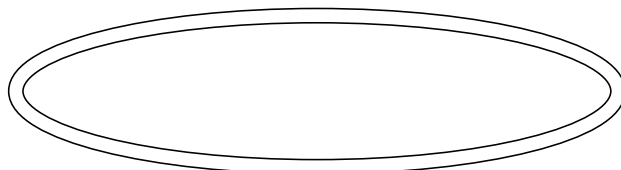
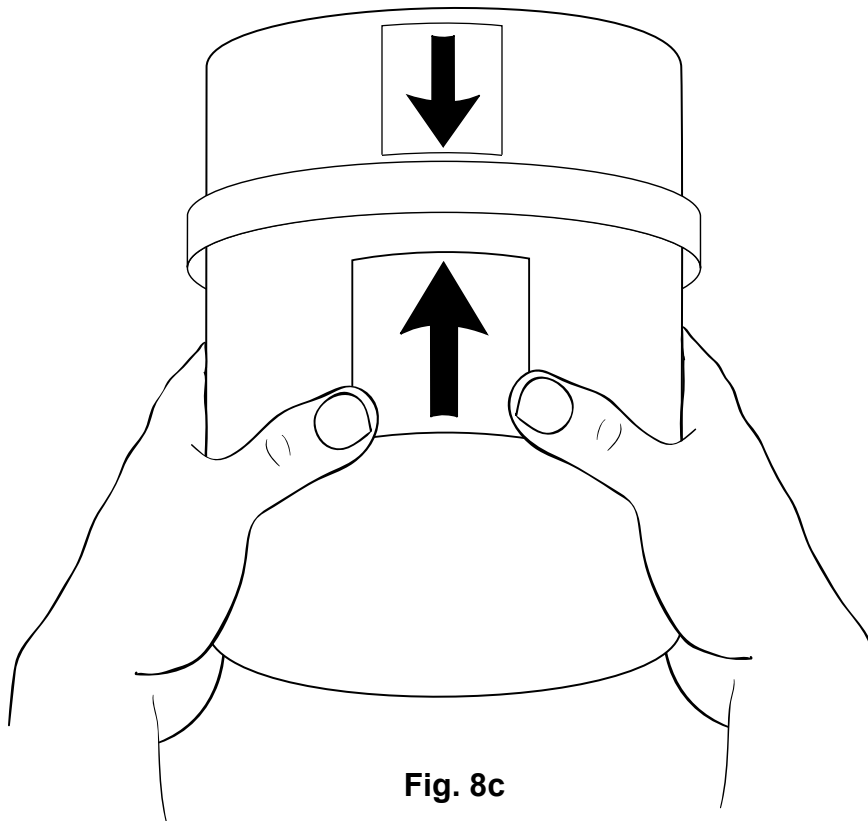

Fig. 8b
Fig. 8c
8.8 Once completed, reinstall the round gasket around the water tank collar. Please see Fig. 8b. Align the two arrows located at the front of the tank and the fixed part while lifting the tank in place. Please see Fig.8c. Apply even pressure to secure the tank properly in the top part. Then close the latch holding the tank in position. Verify that the o-ring gasket and tank are seated properly.